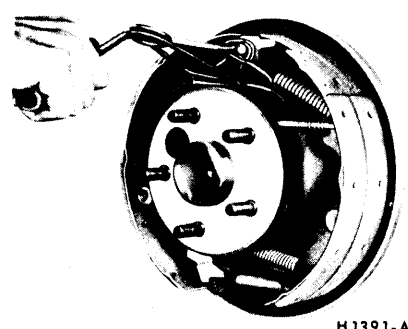

FIG. 17—Retracting Spring Installation
7. Install the secondary shoe to anchor spring (Fig. 17).